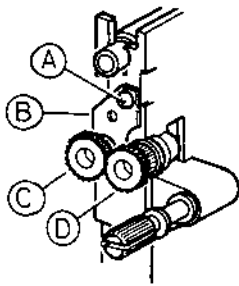

Fig. 4
3. Take off the gear (C) after removing the stopper (B) by loosening the screw (A). (Refer to Fig. 4)
ADJUST DIAL SCALE (Refer to Figs. 4 & 6)